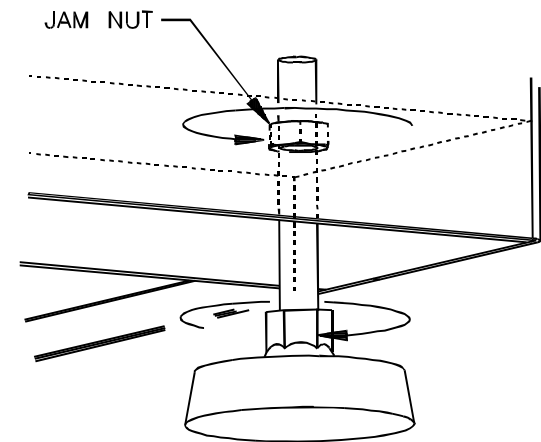

Figure 2-9. Tighten Jam Nuts
8. Lock all (4) leveling pads in place by tightening the jam nuts against the inside of the machine's base as in Figure 2-9. The nuts are accessed from inside the machine.